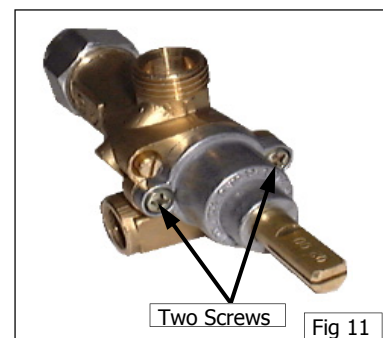

Fig 11
- e. Remove the 2 screws holding shaft plate to gas control body and remove control shaft and plate. (See Fig 11). Note orientation of shaft for correct re-assembly.